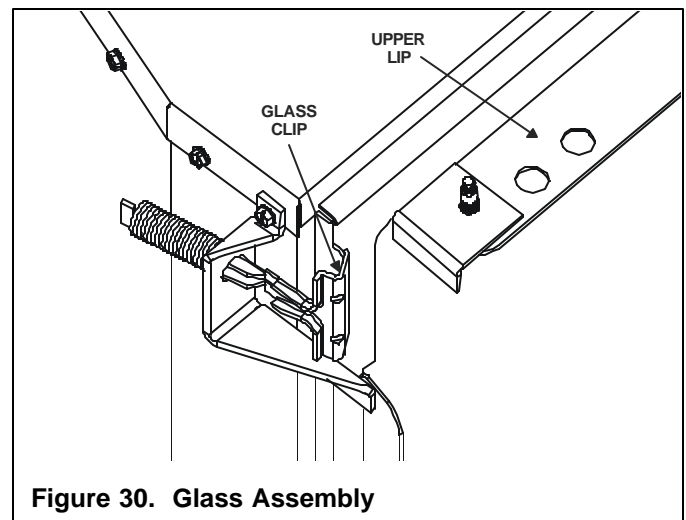

Figure 30. Glass Assembly
- Grasping the upper lip with one hand and the lower lip with the other, pull the bottom of the glass out first. Guide the bottom while letting the top drop down under the top of the opening (see Figure 30).